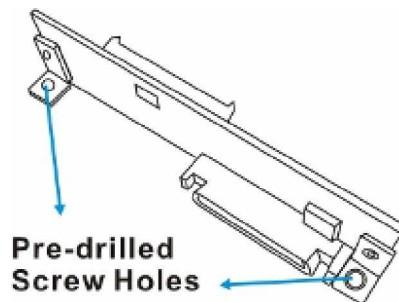

Figure 5-36: MUX kit
-  **Step 4.** *Install the new MUX kit.* The MUX kit (IFT-9270AN2S1S) shown in *Figure 5-36* has two (2) pre-drilled holes on each side that are reserved for retention screws.